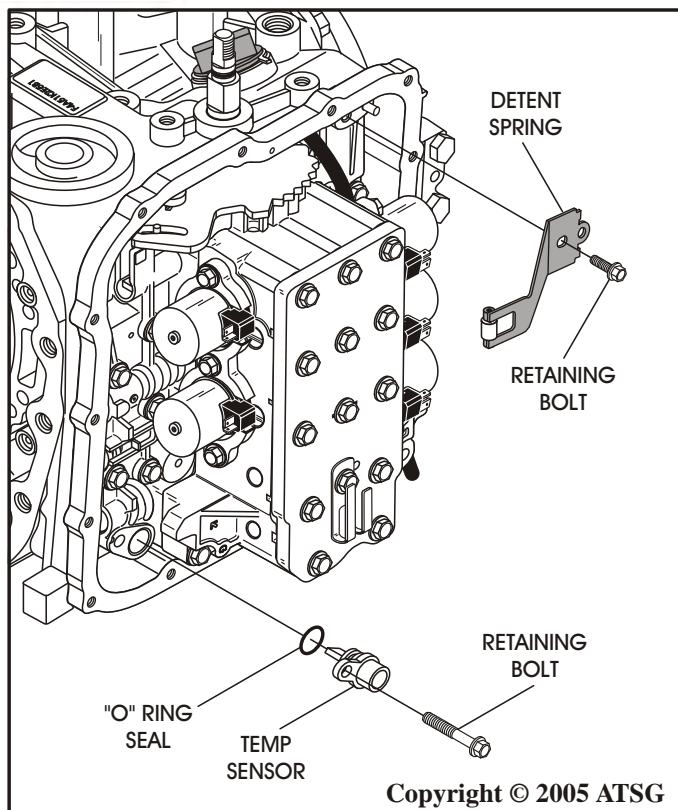

Figure 28
4. Remove the internal detent spring, as shown in Figure 28.
5. Remove the TFT sensor from transaxle, as shown in Figure 28.
6. Remove and discard the TFT sensor "O" ring, as shown in Figure 28.